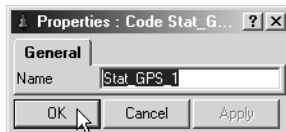

Figure 4-61. Edit Code Name
- Right-click the code's name and click **Properties** on the pop-up menu. Edit the code's name and click **OK** (Figure 4-61).